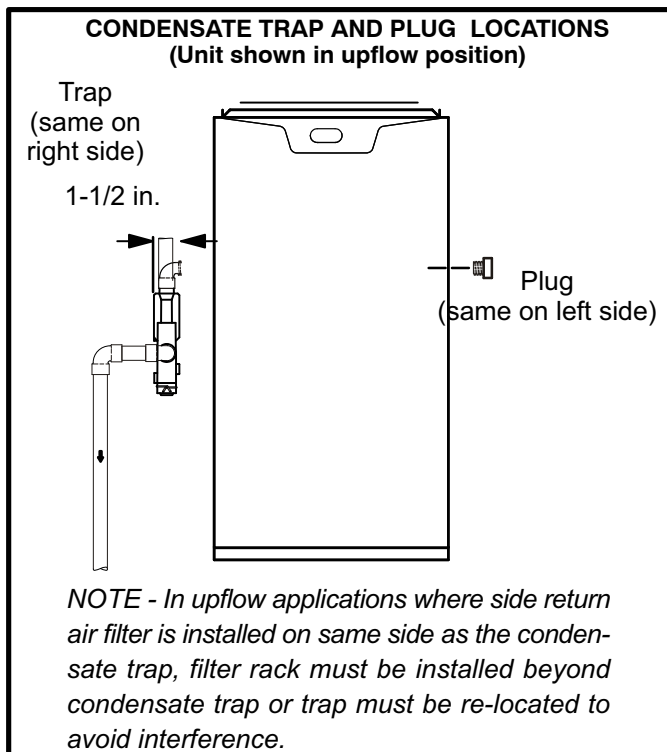
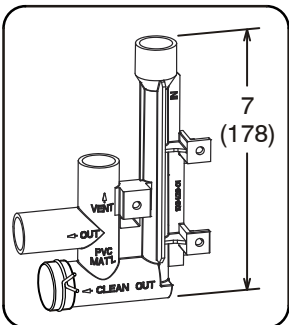

FIGURE 43
FIGURE 51
This unit is designed for either right- or left-side exit of condensate piping in upflow applications. In horizontal applications, the condensate trap must extend below the unit. An 8" service clearance is required for the condensate trap. Refer to figures 43 and 45 for condensate trap locations. Figures 51 (3/4" drain connection) and NO TAG (1/2" drain connection) show trap assembly using 1/2" PVC or 3/4" PVC.
- 2 - For furnaces with a 1/2" drain connection use a 3/8 allen wrench and remove plug (figure 43) from the cold end header box at the appropriate location on the side of the unit. Install field-provided 1/2 NPT male fitting into cold end header box. For furnaces with a 3/4"
- 3 - Install the cap over the clean out opening at the base of the trap. Secure with clamp. See figure 51 or NO TAG.
- 4 - Install drain trap using appropriate PVC fittings, glue all joints. Glue the provided drain trap as shown in figure 51 or NO TAG. Route the condensate line to an open drain. *Condensate line must maintain a 1/4" downward slope from the furnace to the drain.*